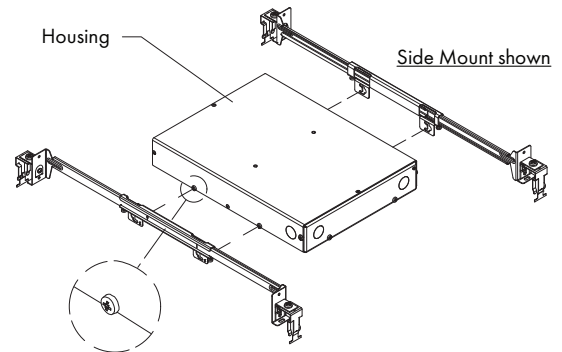

FIG 5.2 Attach Hanger Bracket Assemblies to Housing
STEP 2 Attach Bar Hanger Brackets to Housing in hole position 1 or 2 to accommodate Trim Model & ceiling tile thickness (refer to Page 4 - Table 4.1) - **FIG. 5.2**.